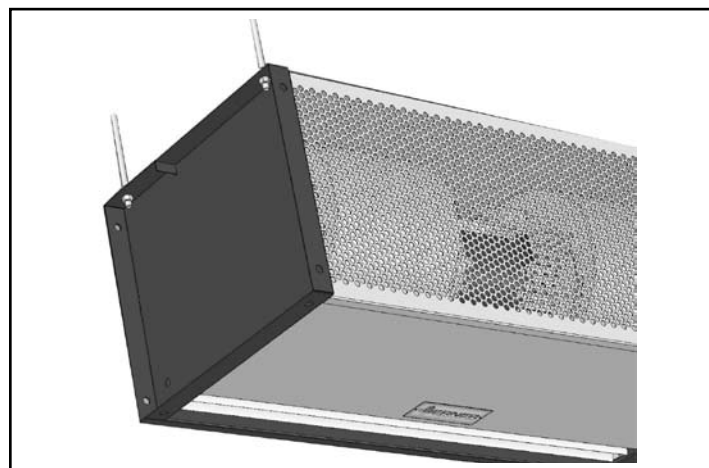
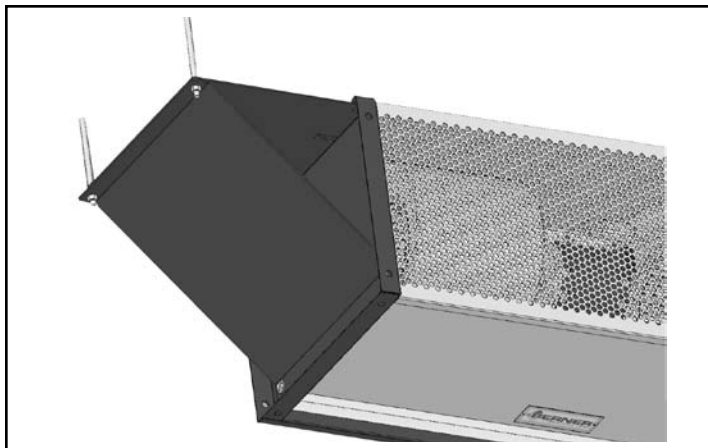

FIGURE 3 - Threaded Rod Suspension
FIGURE 4 - With Extension Brackets
- B. The VSA/VSB series endplates are equipped with $\frac{1}{2}$ " holes for suspended mounting. The unit may be suspended using a minimum $\frac{3}{8}$ " suspension rod (**Figure 3**), or using $\frac{3}{8}$ " suspension rods and extension brackets (available from Berner). **See Figure 4.**